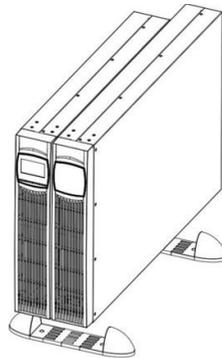

Figure 6: Installation of the rack/tower versatile model as a tower
3. For 6000 and 10000 UPS push them and its battery packs into the two feet from above (see Figure 6). Depending on the number of additional battery packs, you can also use the feet extensions for stabilisation (supplied with the battery packs). Make sure the distance between the two feet is as great as possible to ensure stability.